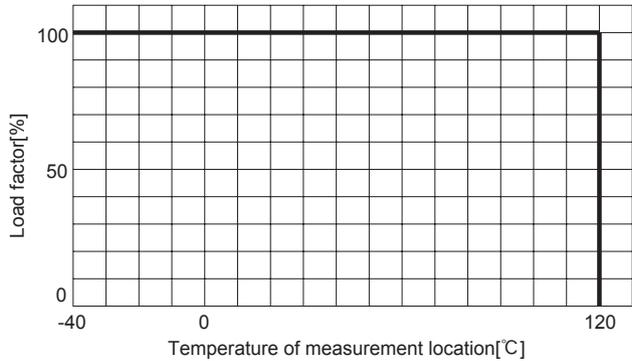
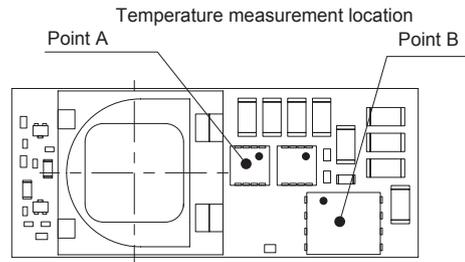
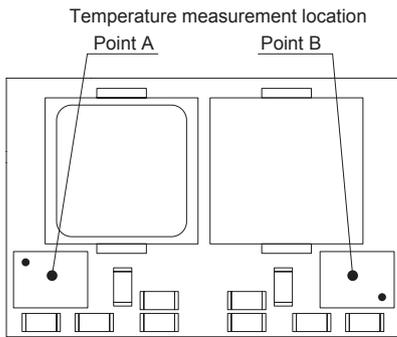

Fig.8.1 Derating curve
Fig.8.2 Temperature measurement location (BRFS30)
Fig.8.6 Temperature measurement location (BRFS60 · BRDS60)
- Make sure the temperatures measurement locations shown from Fig.8.2 to Fig.8.6 below are on or under the derating curve in Fig.8.1.